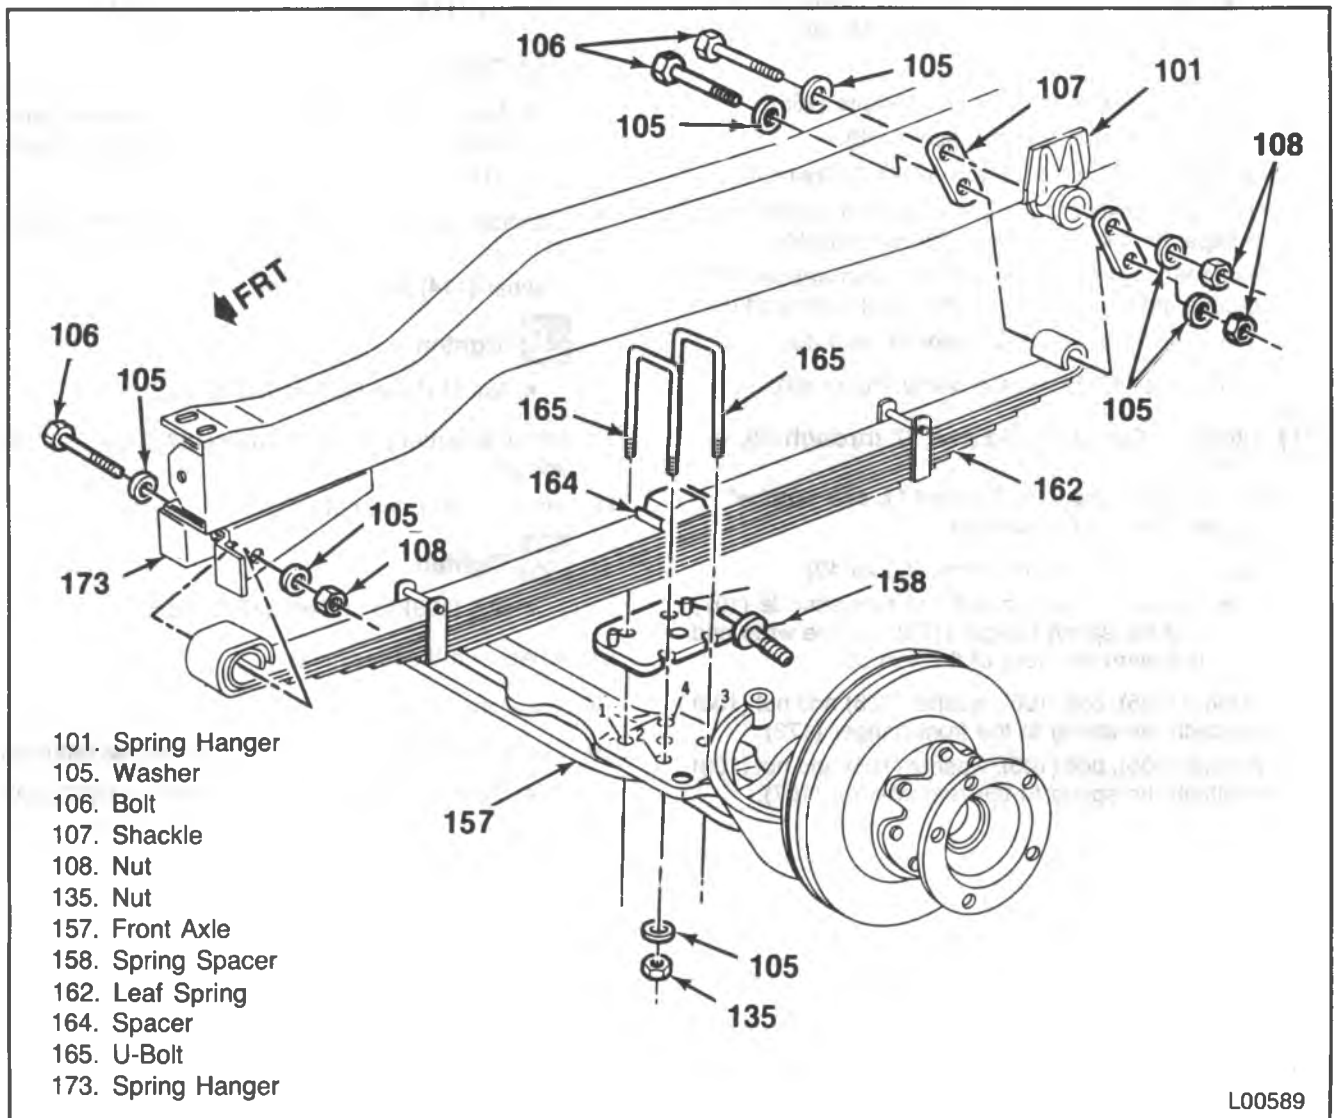

Figure 43 — Axle and Leaf Spring Attachment Points
- Pull the link free from the axle, making sure not to lose the other insulator (118) and retainer (117).
9. Nuts (135), washers (105) and U-bolts (165).
10. Spacer (164) and spring spacer (158).
11. Leaf spring (162) from the axle (175) (figure 43).
8. Nuts (135), washers (105) and U-bolts (165).
9. Spacer (164) and spring spacer (158).
10. Leaf spring (162) from the axle (157) (figure 43).
11. Nut (108), washer (105), bolt (106) and washer (105) to separate the spring from the rear shackle (107).
12. Nut (108), washer (105), bolt (106) and washer (105) to separate the spring from the front hanger (173).
13. Leaf spring (162) from the frame (figure 43).
1. Leaf spring (162) to the frame (figure 43).
- Line up the spring with the rear shackle (107) and the spring hanger (173). Double wrap end is toward the front of the vehicle.
2. Washer (105), bolt (106), washer (105) and nut (108) to attach the spring to the front hanger (173).
3. Washer (105), bolt (106), washer (105) and nut (108) to attach the spring to the rear shackle (107).
- Nut (108) to 125 N•m (92 ft. lbs.).
4. Leaf spring (162) to the axle (157) (figure 43).
- Position the spring spacer (158) onto the axle. Either aligning pin can contact the edge of the leaf spring after the assembly is complete.
5. Spacer (164), U-bolts (165), washers (105) and nuts (135).